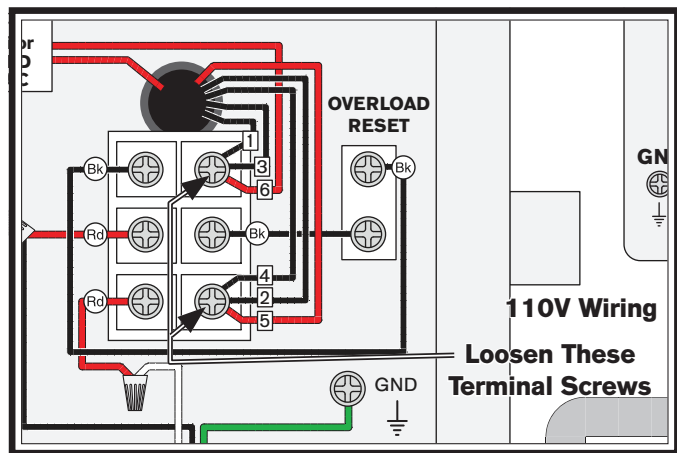

Figure 51. Wiring terminal locations.
2. Open the motor junction box, then loosen the wire terminal screws indicated in Figure 51. Remove the wires connected to those terminals.